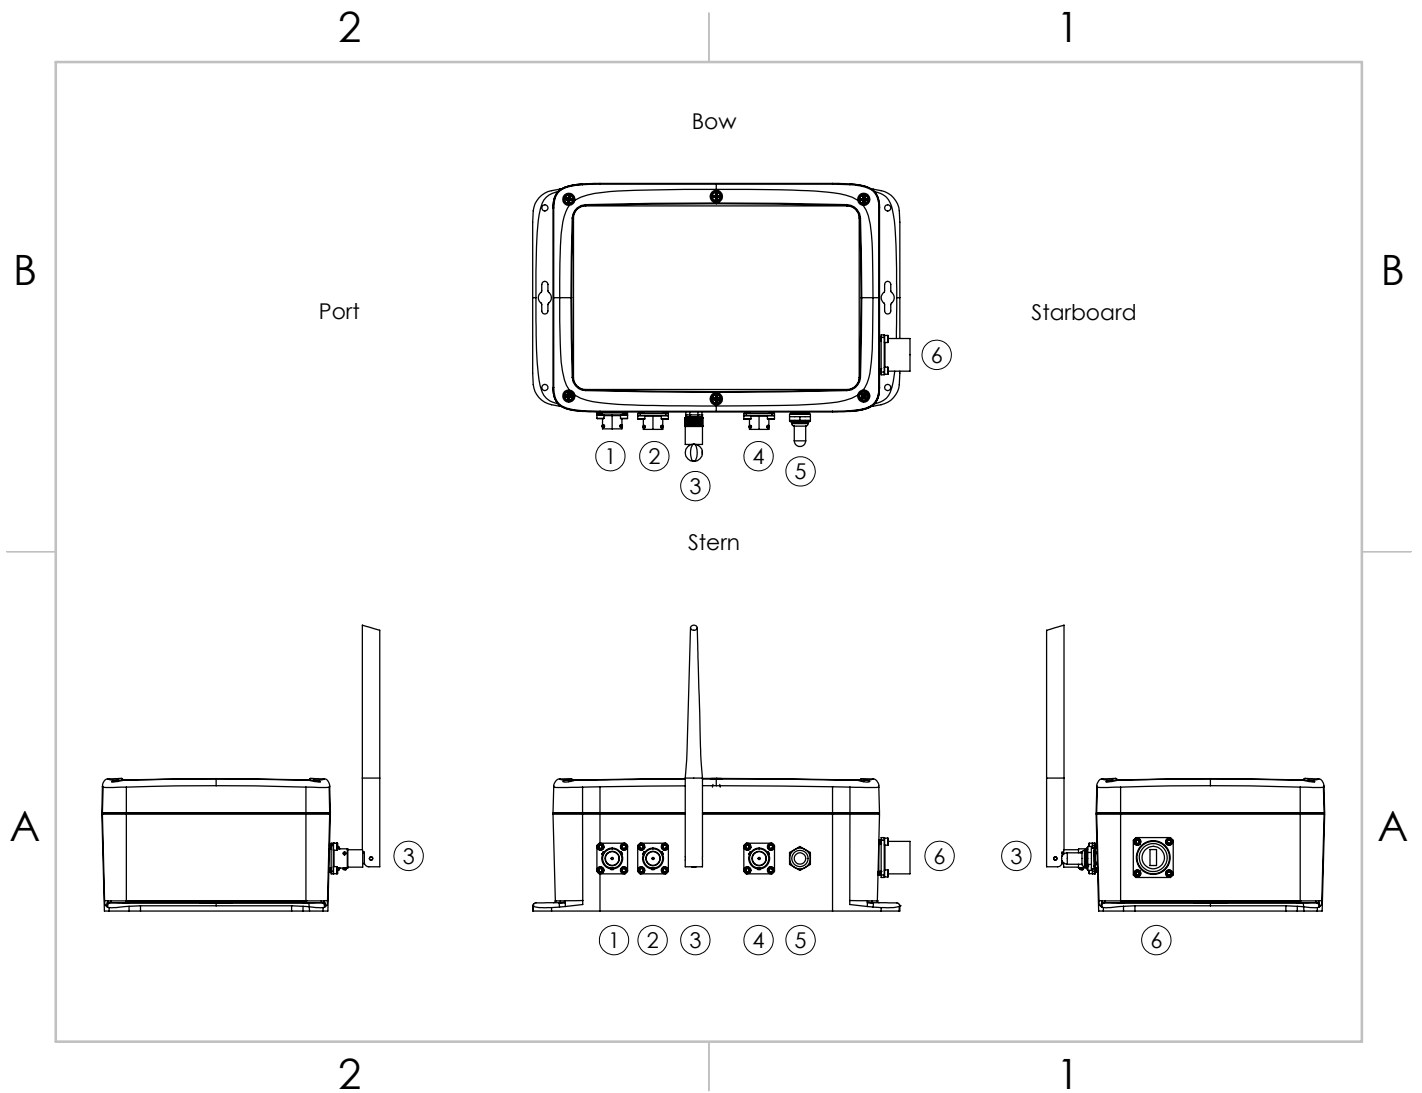

Figure 5: AutoNav™ Layout
15. Place the AutoNav™ on the Hydroner™ frame. Power switch facing the stern. (Figure 5)
18. Screw in the 1x Telemetry Module Antenna into the SMA bulkhead on the AutoNav™. (Figure 5)